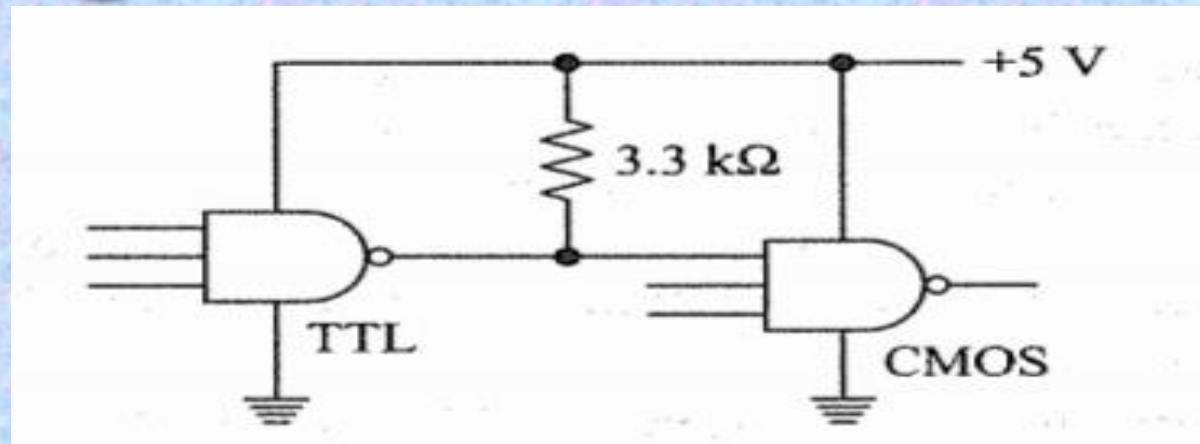

Fig. 1.35 TTL driver and CMOS load
- What do you do? The standard solution is to use a pull-up resistor between the TTL driver and the CMOS load, as shown in Fig. 1.35. What effect does the pull-up resistor have? It has almost no effect on the low state, but it does raise the high state to approximately +5 V. For instance, when the TTL output is low, the lower end of the 3.3 k Ω is grounded (approximately). Therefore, the TTL driver sinks a current of roughly
- Incidentally, the other inputs of the TTL driver and CMOS load (Fig. 1.35) are connected to signal lines not shown. Also, the use of 3-input gates is arbitrary. You can interface gates with any number of inputs. If more than one TTL chip is being interfaced to the CMOS load, connect each TTL driver to a separate pull-up resistor and CMOS input.